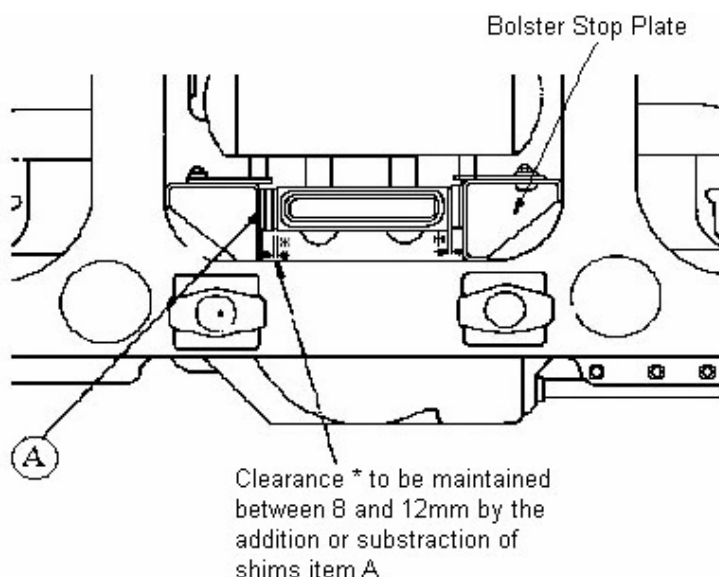

Figure 9.2: Bolster Stop Shims
- 9.4 Check that the clearances between the bolster and the bolster stop brackets are between 8 and 12mm (see Figure 9.2).